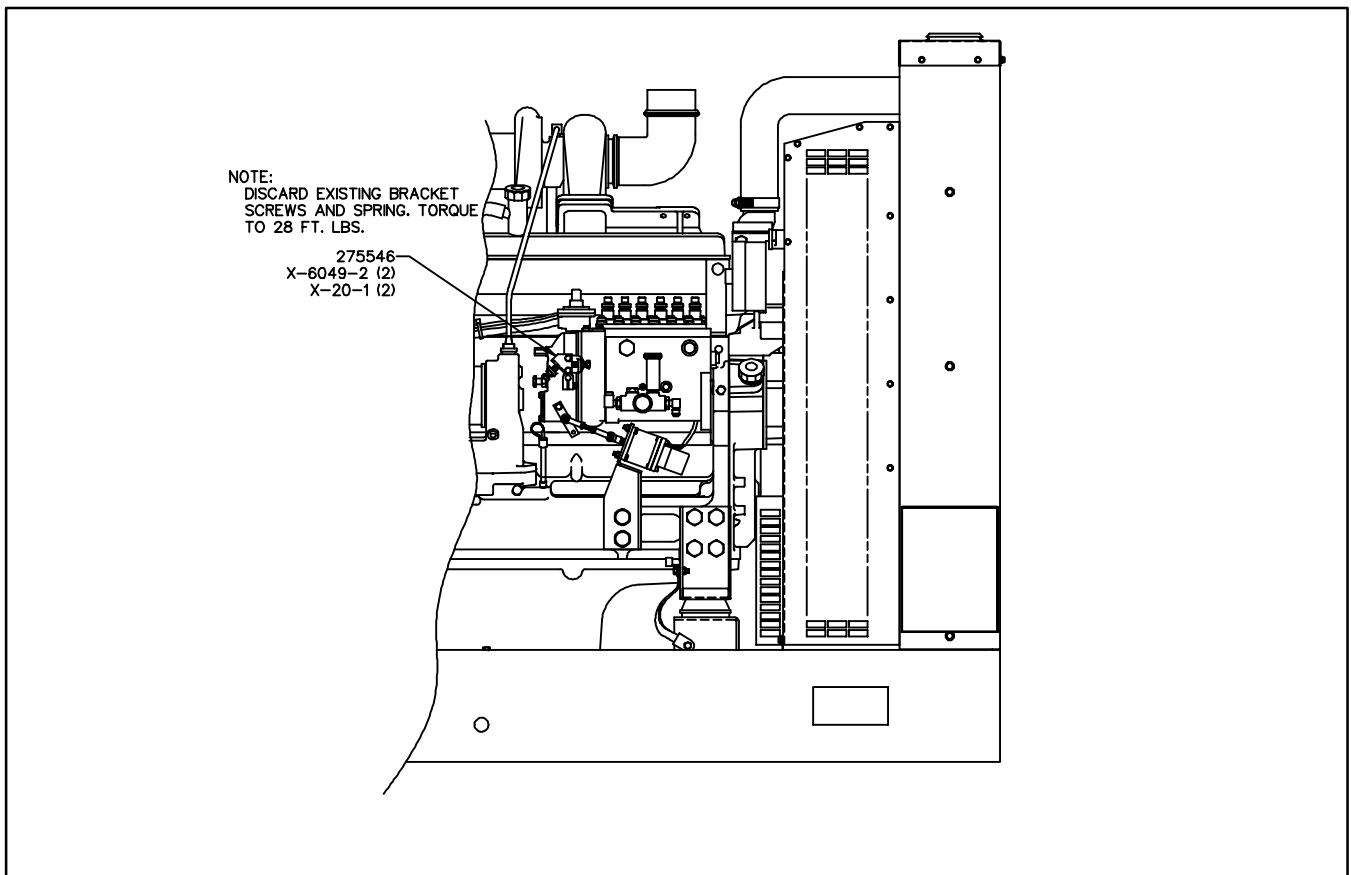

Figure 4. Throttle Repair Kit 275550 for 125–180ROZJ
- b. Attach throttle bracket (275546) to governor shaft with screws and washers as shown in Figures 4 and 5. Torque to 28 ft. lbs. (40 Nm). When installed, the throttle bracket should contact the governor stop screw to hold the throttle in the full–open position against the idle speed adjusting screw. **DO NOT CHANGE POSITION OF IDLE SPEED ADJUSTING SCREW.**